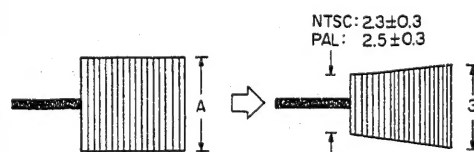
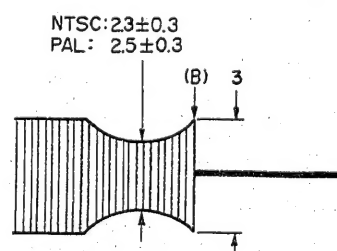

Fig. 4-1
Fig. 4-2
4. ADJUSTMENT AFTER REPLACING THE CYLINDER (Figs. 4-1, 4-2)
- 6) Adjust the voltage level control of the oscilloscope so that portion (A) of the waveform is set to 4 graduations.
- 8) Turn RT1 on the ATF-R jig counterclockwise so that portion (A) of the waveform is set to 3 graduations.
- 9) Adjust the height of the supply guide roller so the minimum amplitude of the waveform is set to NTSC: 2.3 ± 0.3 / PAL: 2.5 ± 0.3 graduations. (See Fig. 4-1)
- 12) Turn RT1 on the ATF-R jig so that portion (B) of the waveform is set to 3 graduations.
- 13) Check that the minimum amplitude of the waveform is set to NTSC: 2.3 ± 0.3 / PAL: 2.5 ± 0.3 graduations. (See Fig. 4-2)